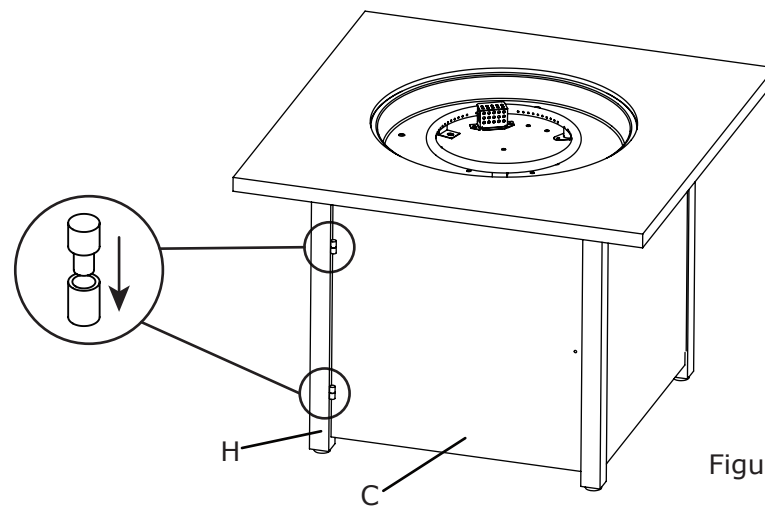

Figure 7
7. With the help of another person, carefully turn the fire pit to the upright position. Attach the door panel (C) to the back-left leg (H) by aligning the hinge on the door panel with those on the back-left leg (H) and inserting the pins in the hinges, (see Figure 7).